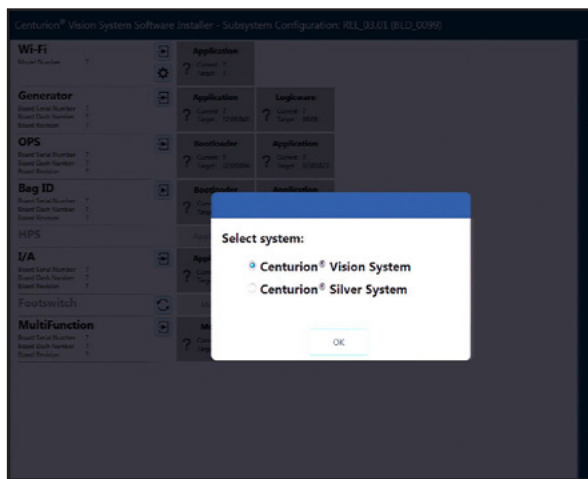

Figure 4-14 System Select Dialog
- 2.4.1 Select the appropriate *Centurion** system on the Select System display shown in Figure 4-14), and select OK (for software 3.01 only).